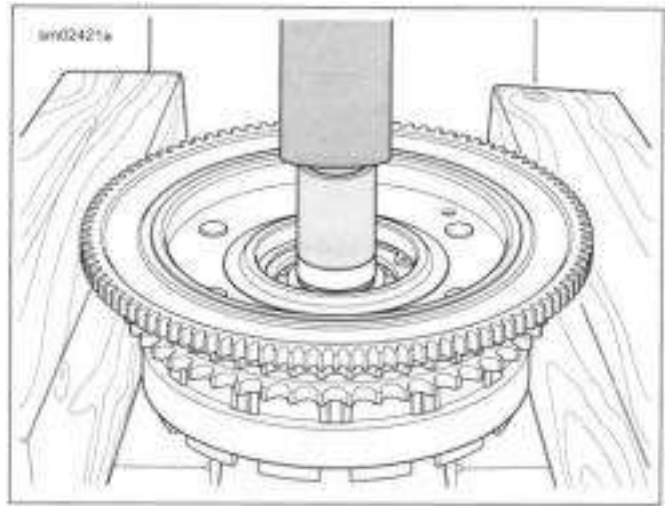

Figure 5-25. Pressing Clutch Hub From Bearing
- b. See Figure 5-25. Support clutch shell in press with ring gear side up.
- b. See Figure 5-25. Support clutch shell in press with ring gear side is down.